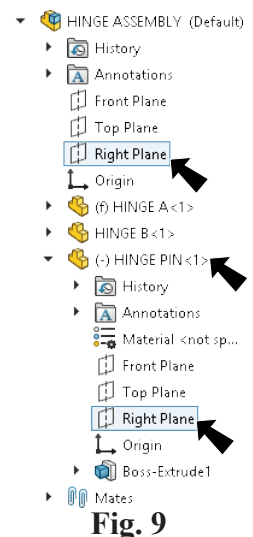

Fig. 9
Step 2. Expand the flyout Feature Manager design tree (click ) in the top left corner of the graphics area and click **Right Plane** , **Fig. 9**.
Step 3. Expand **Hinge Pin** and click **Right Plane** , **Fig. 9**.